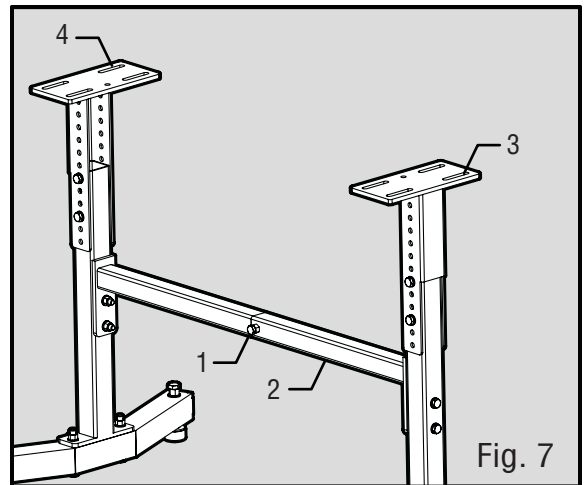

Fig. 7
ADJUSTING FOR LATHE LENGTH (FIG. 7)
2. Loosen the two M10x20 hex bolts (Fig. 7 - 1) on the outer beam (Fig. 7 - 2). Slide the beams inward or outward to the desired length, measuring from the slots in the right mounting platform (Fig. 7- 3) to the slots in the left mounting platform (Fig. 7 -4).
3. Once the desired length has been set, tighten the two M10x20 hex bolts (Fig. 7 - 1) to secure the beams.